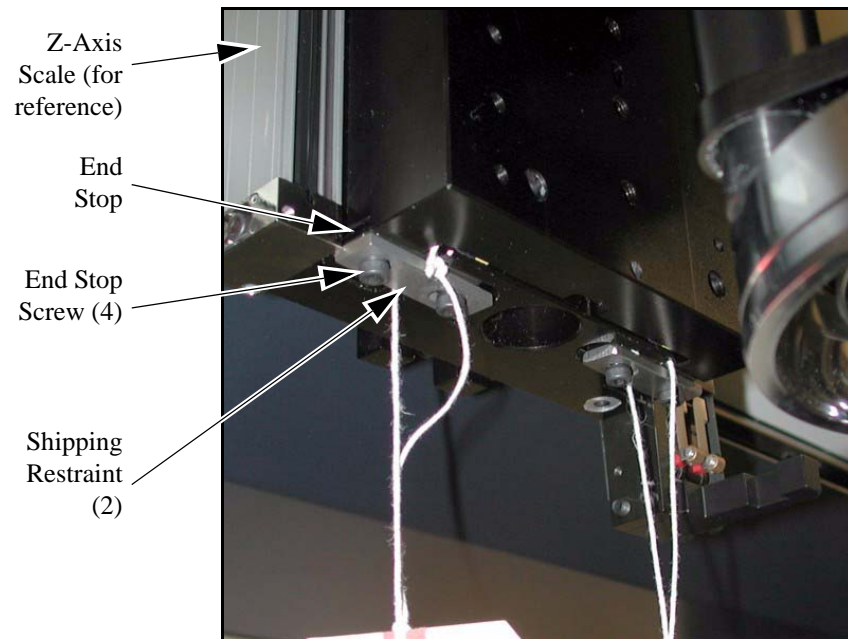

Figure 4-5 Z-Axis Shipping Restraints (2)
- Position the Z transport so the bottom of the Z-axis slide is flush with the bottom of the Z-axis housing (see Figure 4-5 on page 31).
Two Z-axis shipping restraints attach to the bottom of the Z-axis slide assembly, as shown in Figure 4-5. To install the Z-axis shipping restraints, do the following:
2. Attach the two Z-axis shipping restraints to the bottom of the Z-axis slide assembly with the four Z-axis end stop screws (see Figure 4-5).